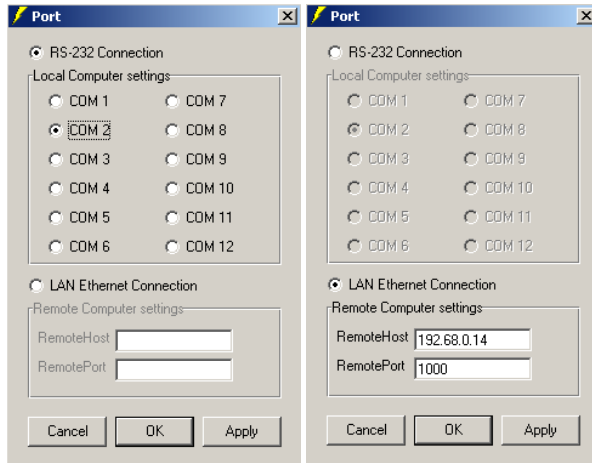

Figure 11: Port Settings for RS-232 and LAN Ethernet Connections
- In the RemotePort field box, enter the remote port number. It must be identical to the Local Port number setting of the K-Router application on the *RS-232 Connecting Remote PC*, as Figure 11 illustrates.